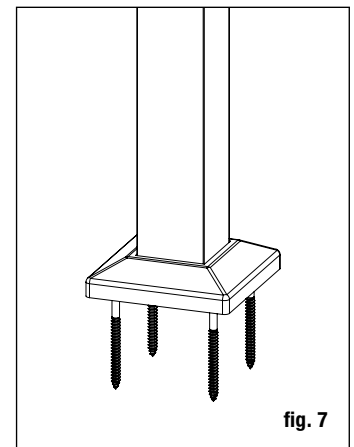

fig. 7
Step 5 Finish by sliding a post base trim over each post for a finished look. (fig. 7)